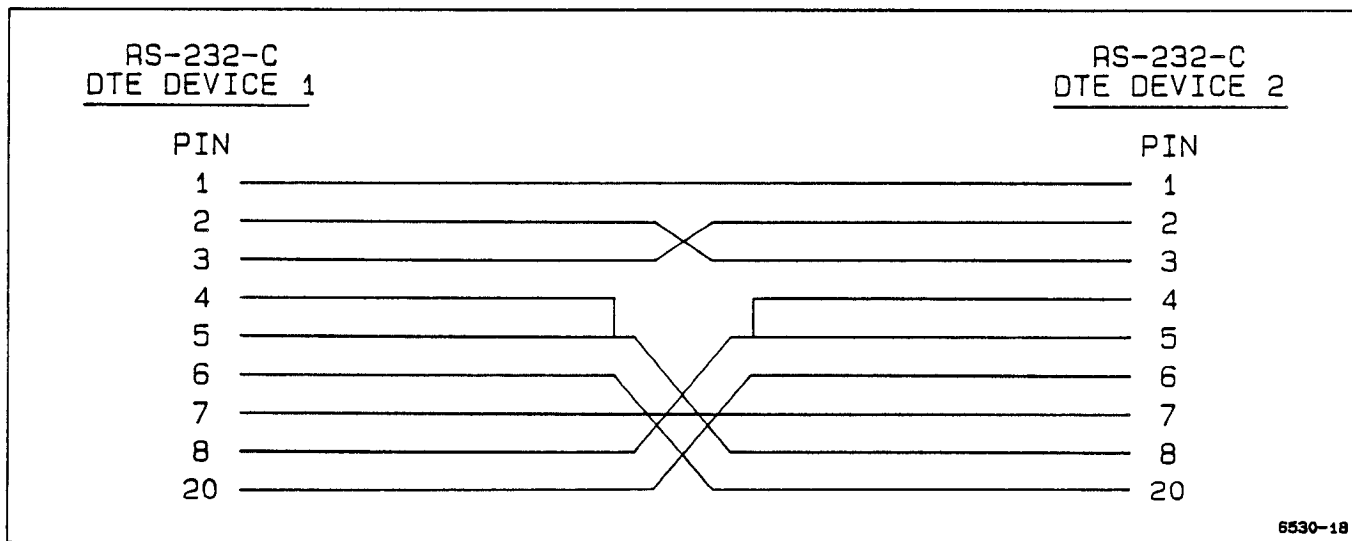

Figure B-1. Null Modem cable wiring.
2. A "Null Modem" cable or device may be used to interconnect two DTE or two DCE devices. Generally the cable is custom made with RS-232-C connectors that match the devices to be interconnected. A null modem cable permits two devices of the same type (DCE to DCE and DTE to DTE) to communicate as if they were connected DTE to DCE. The Transmit and Receive lines and the associated handshake line are swapped in the null modem to satisfy the requirements for data transfer between the two devices. See Figure B-1 for the "Null Modem" cable wiring schematic.